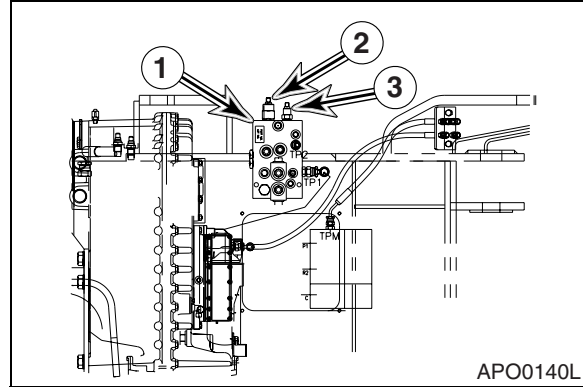

Figure 100
2. Adjust brake charge valve cartridge (2, Figure 100) on brake and pilot and fan motor supply valve (1, Figure 100). Relief pressure for brake charging is $120 \pm 5 \text{ kg/cm}^2$ ($1,707 \pm 70 \text{ psi}$).